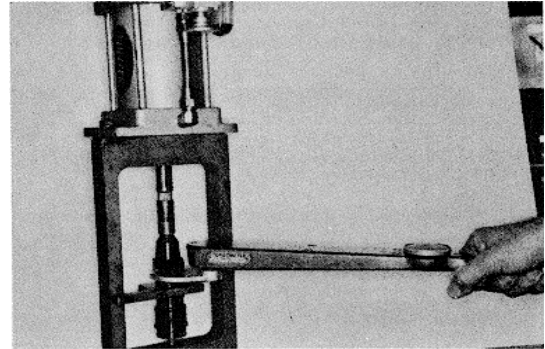

Fig. 6-1-36, F60197. Torquing cup retainer - injector in ST-1298
13. Tighten cup retainer with ST-1072, Crowfoot Wrench, and ST-995, Retainer Wrench, to 50 ft. lbs. torque (Fig. 6-1-36).